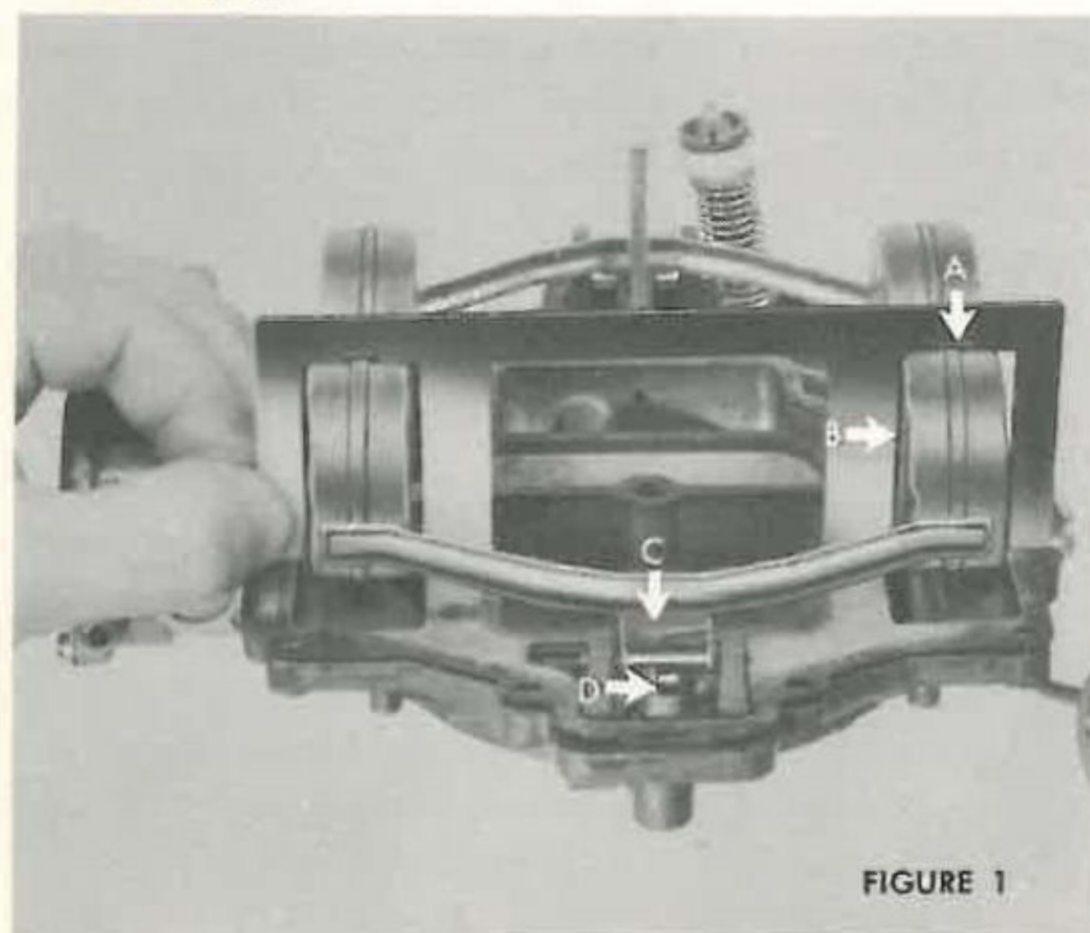
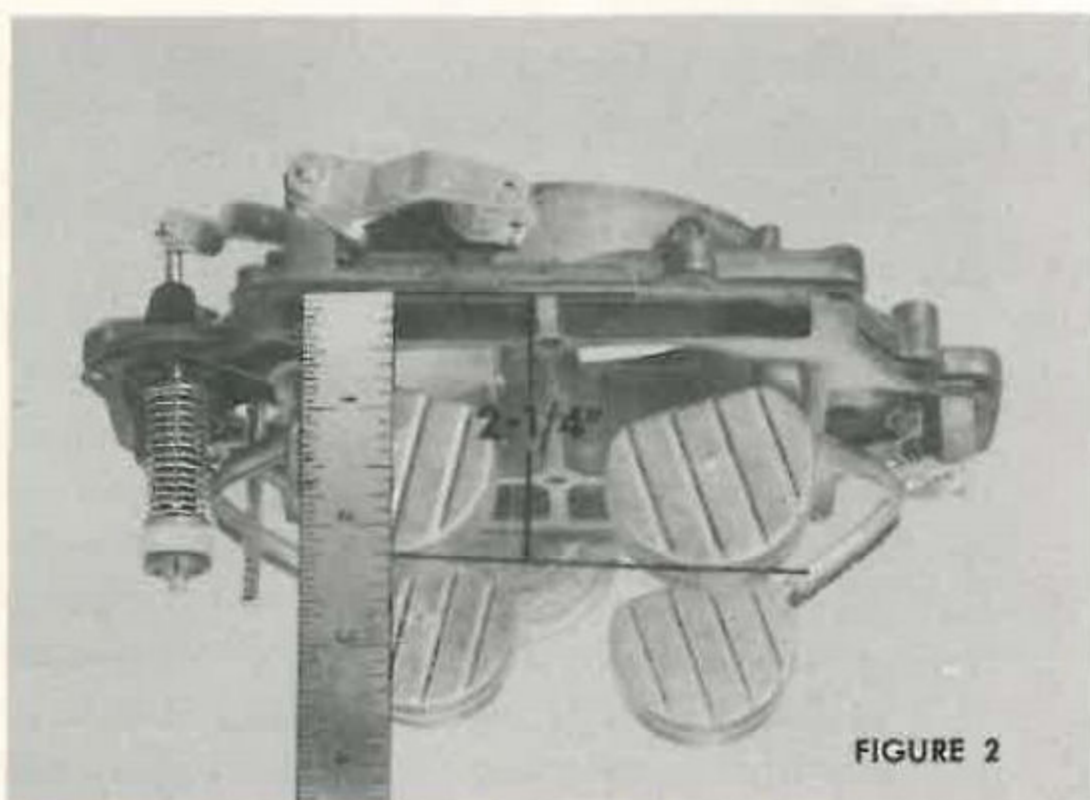

FIGURE 1
FIGURE 2
- a. **Float Level:** Place float level gauge J-5399 in position as shown in Fig. 1. Lift the floats until the needle is seated. The floats should just touch the top portion of the gauge "A," bend float arms at "C" as required. (The scale dimension from the bottom of floats to the air horn gasket should be $1\frac{5}{8}$ ".)
horn gasket to the bottom of the floats should be $2\frac{1}{4}$ ", Fig. 2. Adjust as necessary by removing float and bending the small tang which contacts the float needle seat, "D" Fig. 1. Bend tang toward needle seat to lessen drop, or away from seat to increase drop.